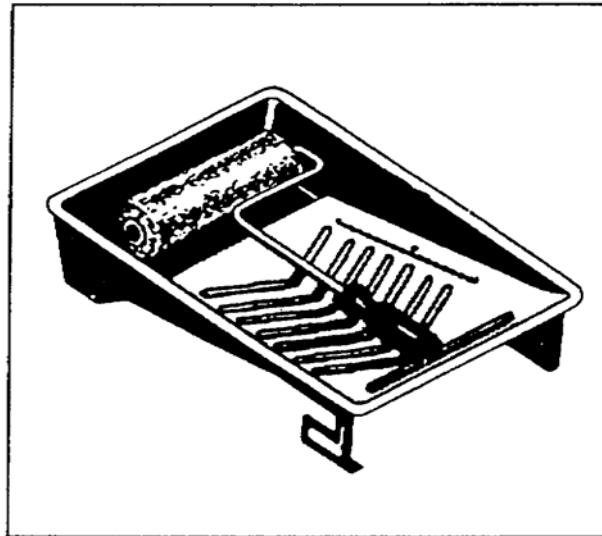

Figure 3-36. Paint roller and tray
d. Paint Roller Trays. A roller tray (Figure 3-36) is usually a shallow, rectangular container made of metal. The tray is used to apply paint to the roller, and the tray size is determined by the roller's width. To control the amount of paint that stays on the roller, pull the roller over the ridges in the bottom of the tray. Clean the roller first, then clean the tray with the same materials you used to clean the roller.